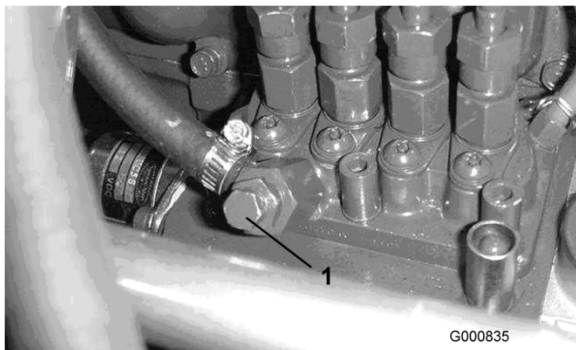

Figure 24
5. Open the air bleed screw on the fuel injection pump (Figure 24).